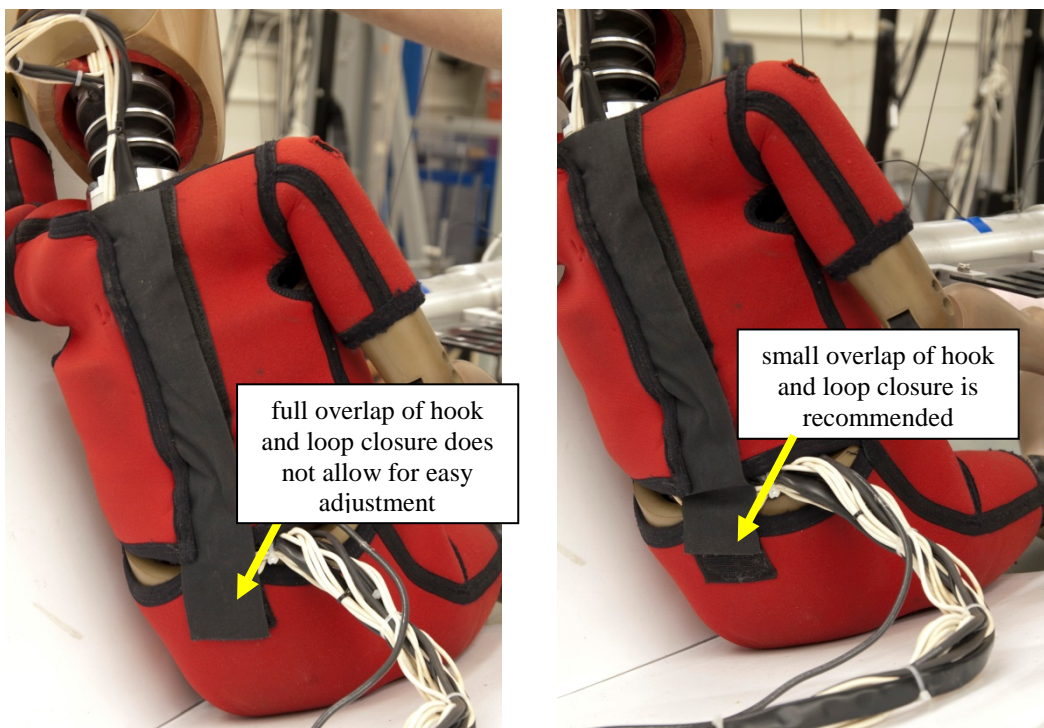

Figure 123. Proper umbilical placement and jacket closure
- For this procedure, *initially only*, the pins on either side of Q3s positioning device should both be installed (Figure 123).